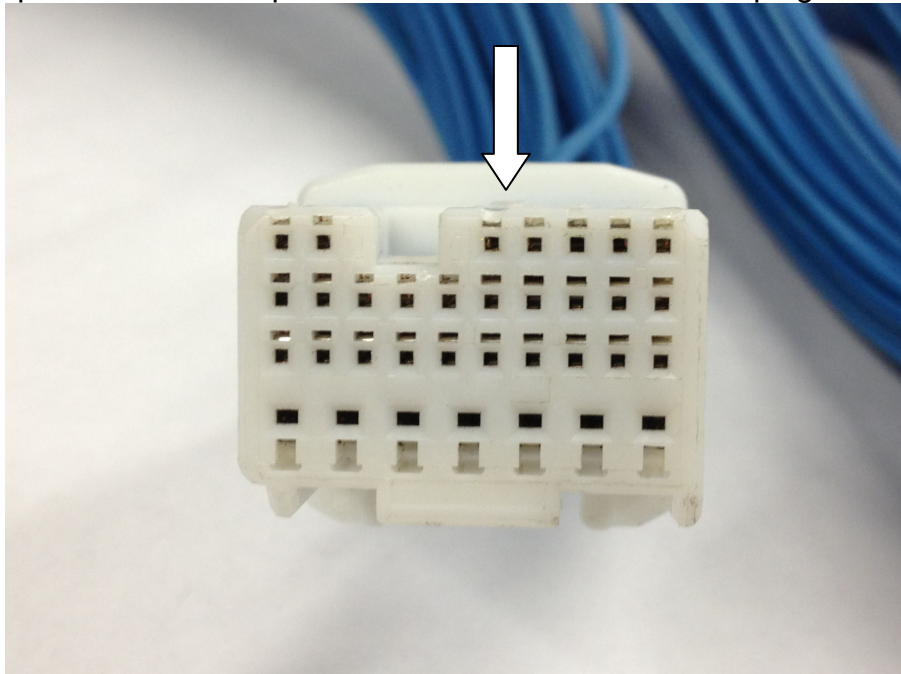

Figure 7: Ensure pin lock is relocked
5. Push the pin lock back into place until it is flush with the ECU plug as shown in figure 7: